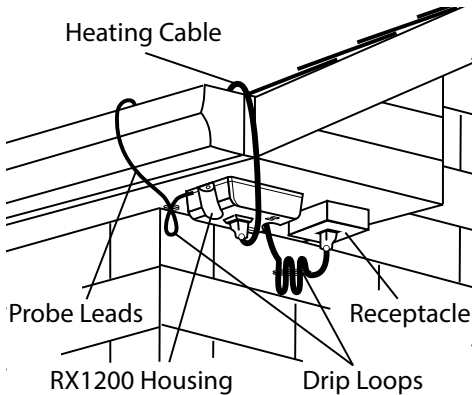

Fig. 1
1. The RX1200 main housing should be mounted under the eave or soffit, or equivalent location protected from the weather. See Fig. 1.
b. Make sure power leads, probe leads and power connection to the heating cables have drip loops for maximum water protection. See Fig. 1.